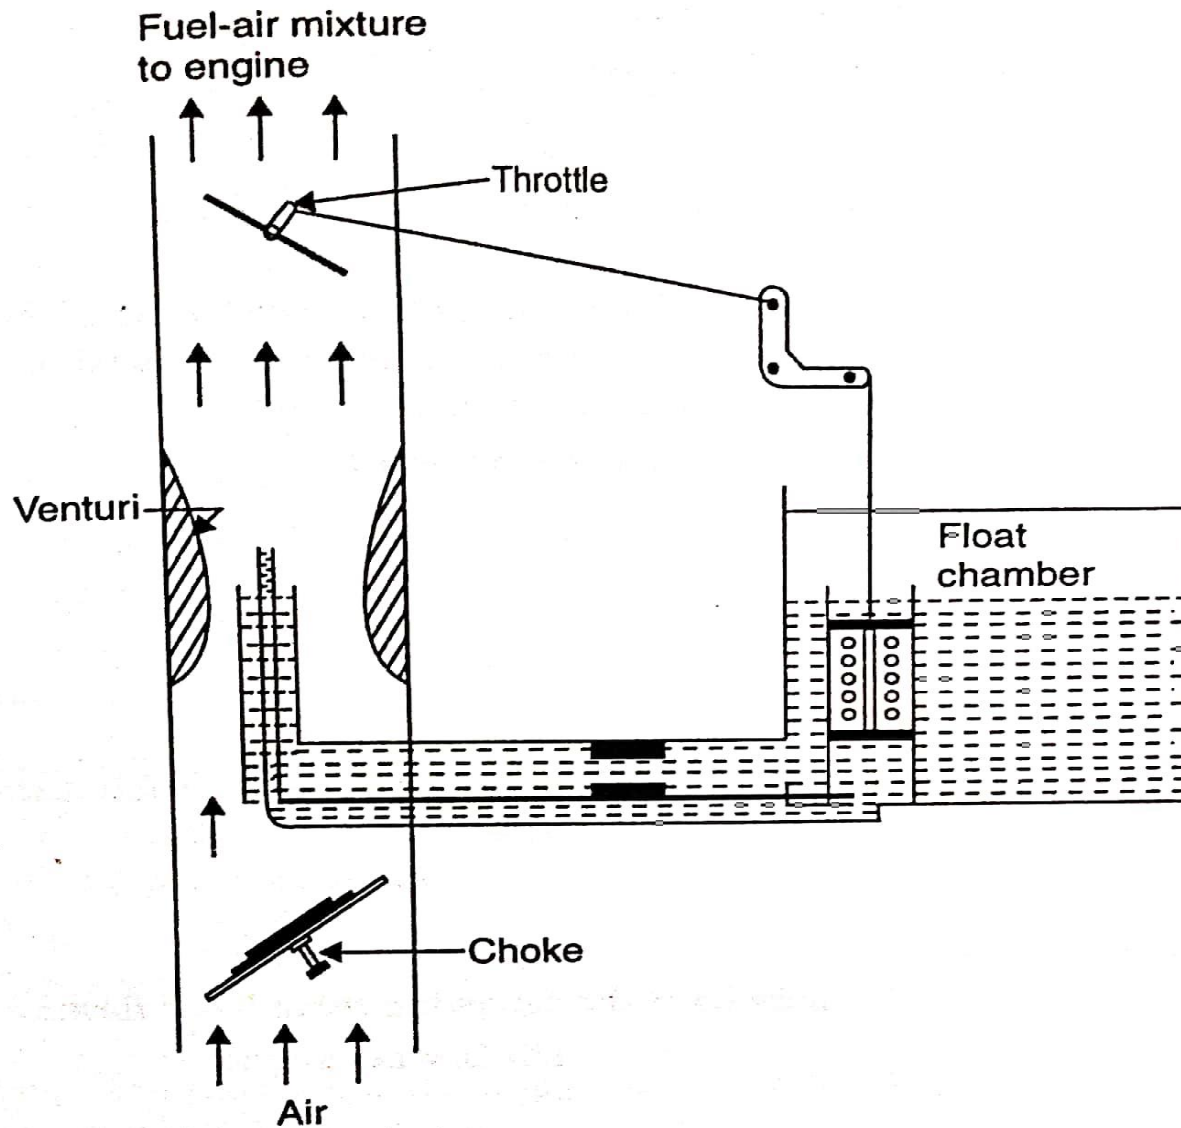

Fig. 11.15. Choke valve with spring-loaded by-pass.
- A *choke* is simply butterfly valve located between the entrance to the carburettor and the venturi throat as shown in Fig. 11.15.